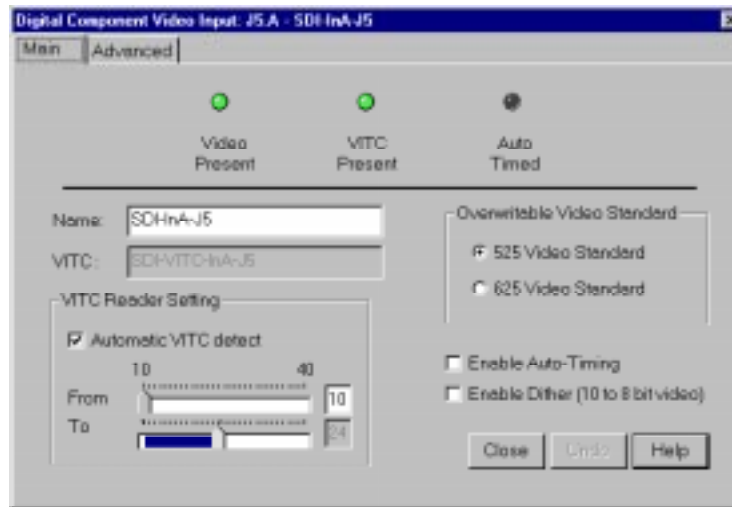

Figure 20. Serial Digital Component Video Input dialog box
1. Select **Video Input** on the configuration tree, and then click or double-click a digital component input from the list, such as *SDI-InA-J13*. The Serial Digital Component Video Input dialog box appears (Figure 20).